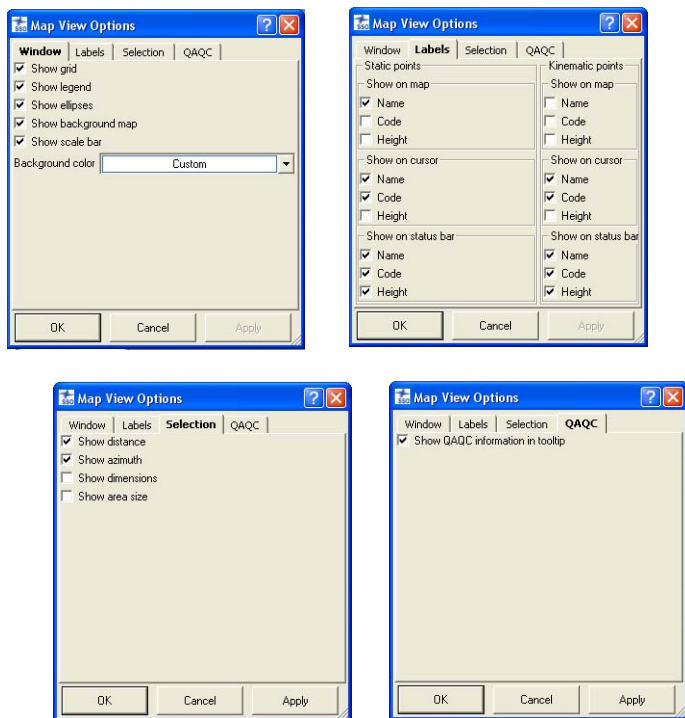

Figure 4-27. Map View Options – Window, Labels, Selection, and QAQC
1. Click **View ▶ Options ▶ Map View Options** or right-click on an empty portion of the Map View and click **Options** on the pop-up menu (Figure 4-27 on page 4-27). The *Map View Options* dialog boxes display.
2. On the *Windows* tab, enable the desired settings (Figure 4-27). Click **OK** to save the settings.
3. On the *Labels* tab, enable the desired settings for static and kinematic points (Figure 4-27 on page 4-27). Click **OK** to save the settings.
4. On the *Selection* tab enable the desired settings (Figure 4-27 on page 4-27). Click **OK** to save the settings and make further changes.
5. On the *QAQC* (Quality Analysis Quality Control) tab, if desired, enable the following setting (Figure 4-27 on page 4-27). Click **OK** to save the setting.